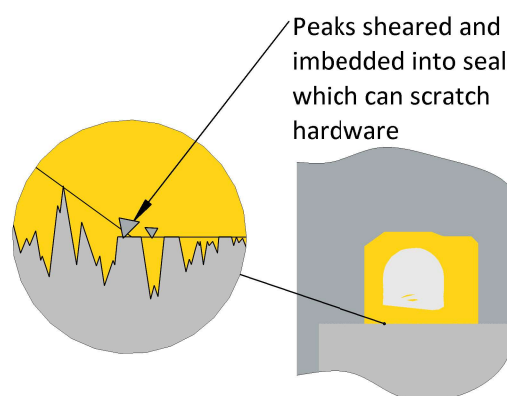

Figure 1: PTFE seal plowing rough peaks
2. Hardware damage /surface scratching (See Figure 1)